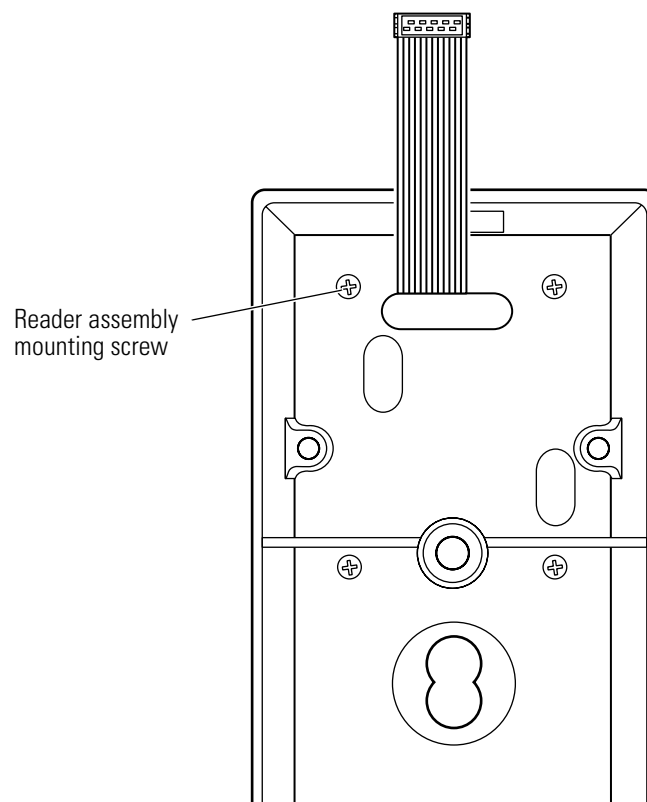

Figure 9.21 Removing and reinstalling the screws for the dual validation reader assembly
2. Remove and save the four reader assembly mounting screws. See Figure 9.21.
2. Position the reader assembly on the reader gasket and install the four reader assembly mounting screws. See Figure 9.21.